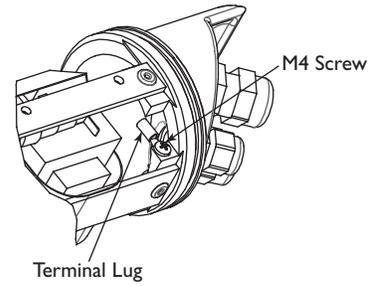

Figure 6 Securing Ground Wire
2. A screw/terminal lug is provided for securing a safety ground. Attach the terminal lug to the cradle using the M4 x 10 screw provided (see **Figure 6**).